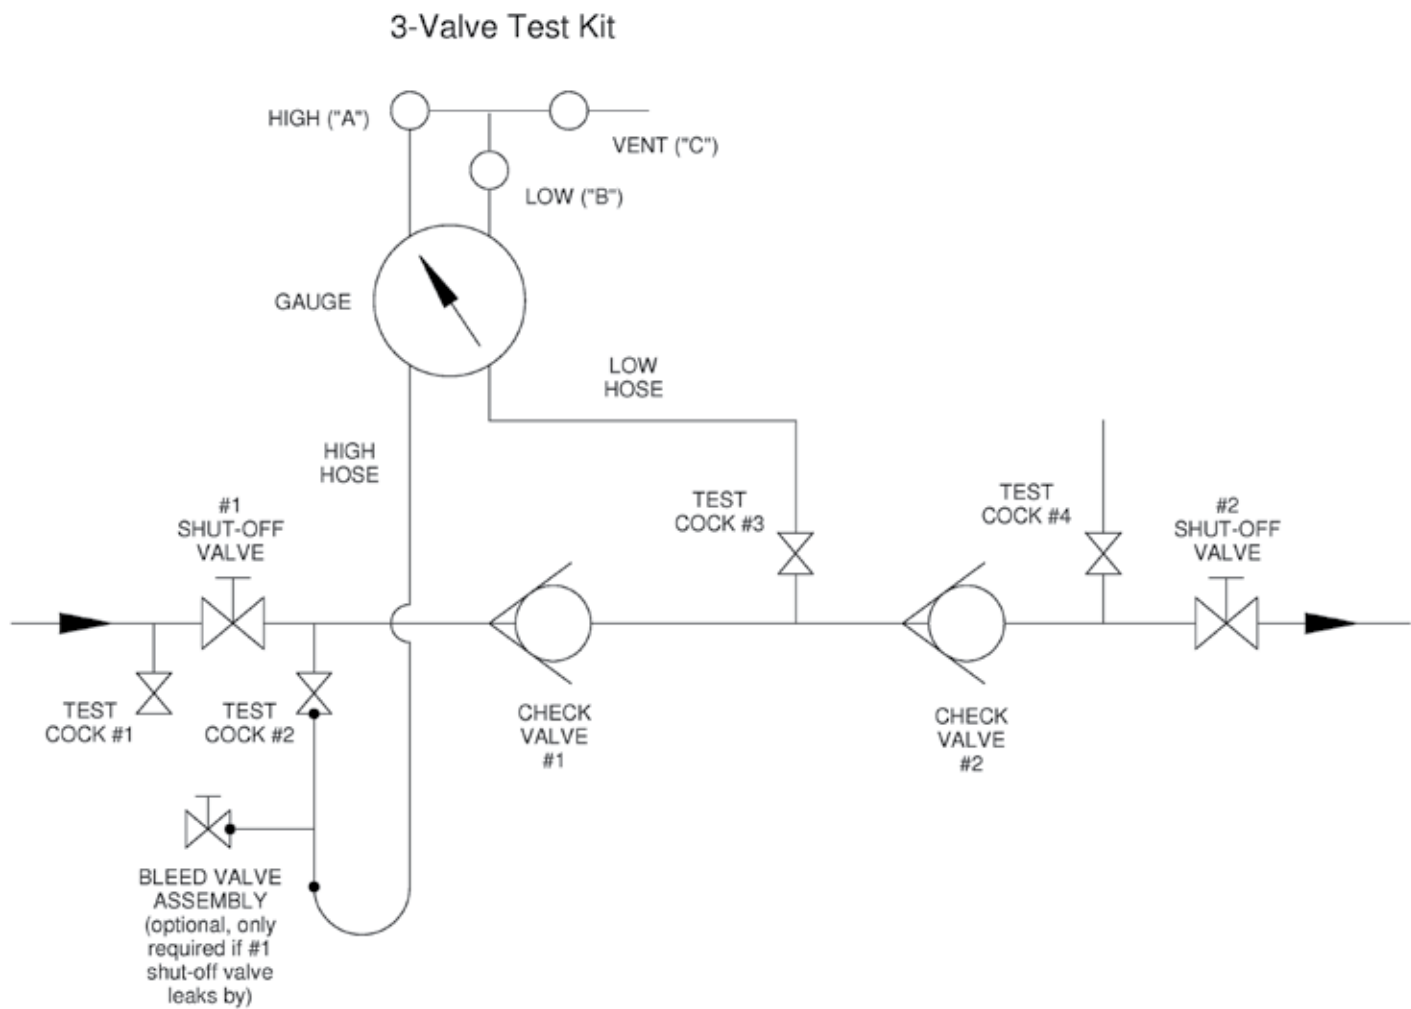

Figure 8
NOTE: *This is a three-valve test kit procedure. Your local water purveyor should be consulted for acceptable test procedures. This procedure is to be used on a stand-alone double check valve (DC), the mainline DC of a double check detector, and/or the bypass DC of a Type 1 double check detector. See Figure 8 for a schematic of the test setup.*